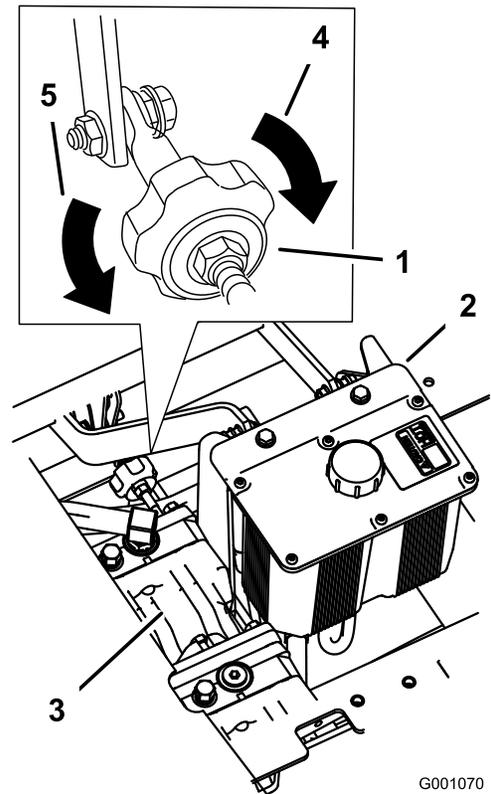

Figure 76
2. Adjust the pump rod length by rotating the knob, in the appropriate direction, until the wheel is still or slightly creeping in reverse (Figure 76).